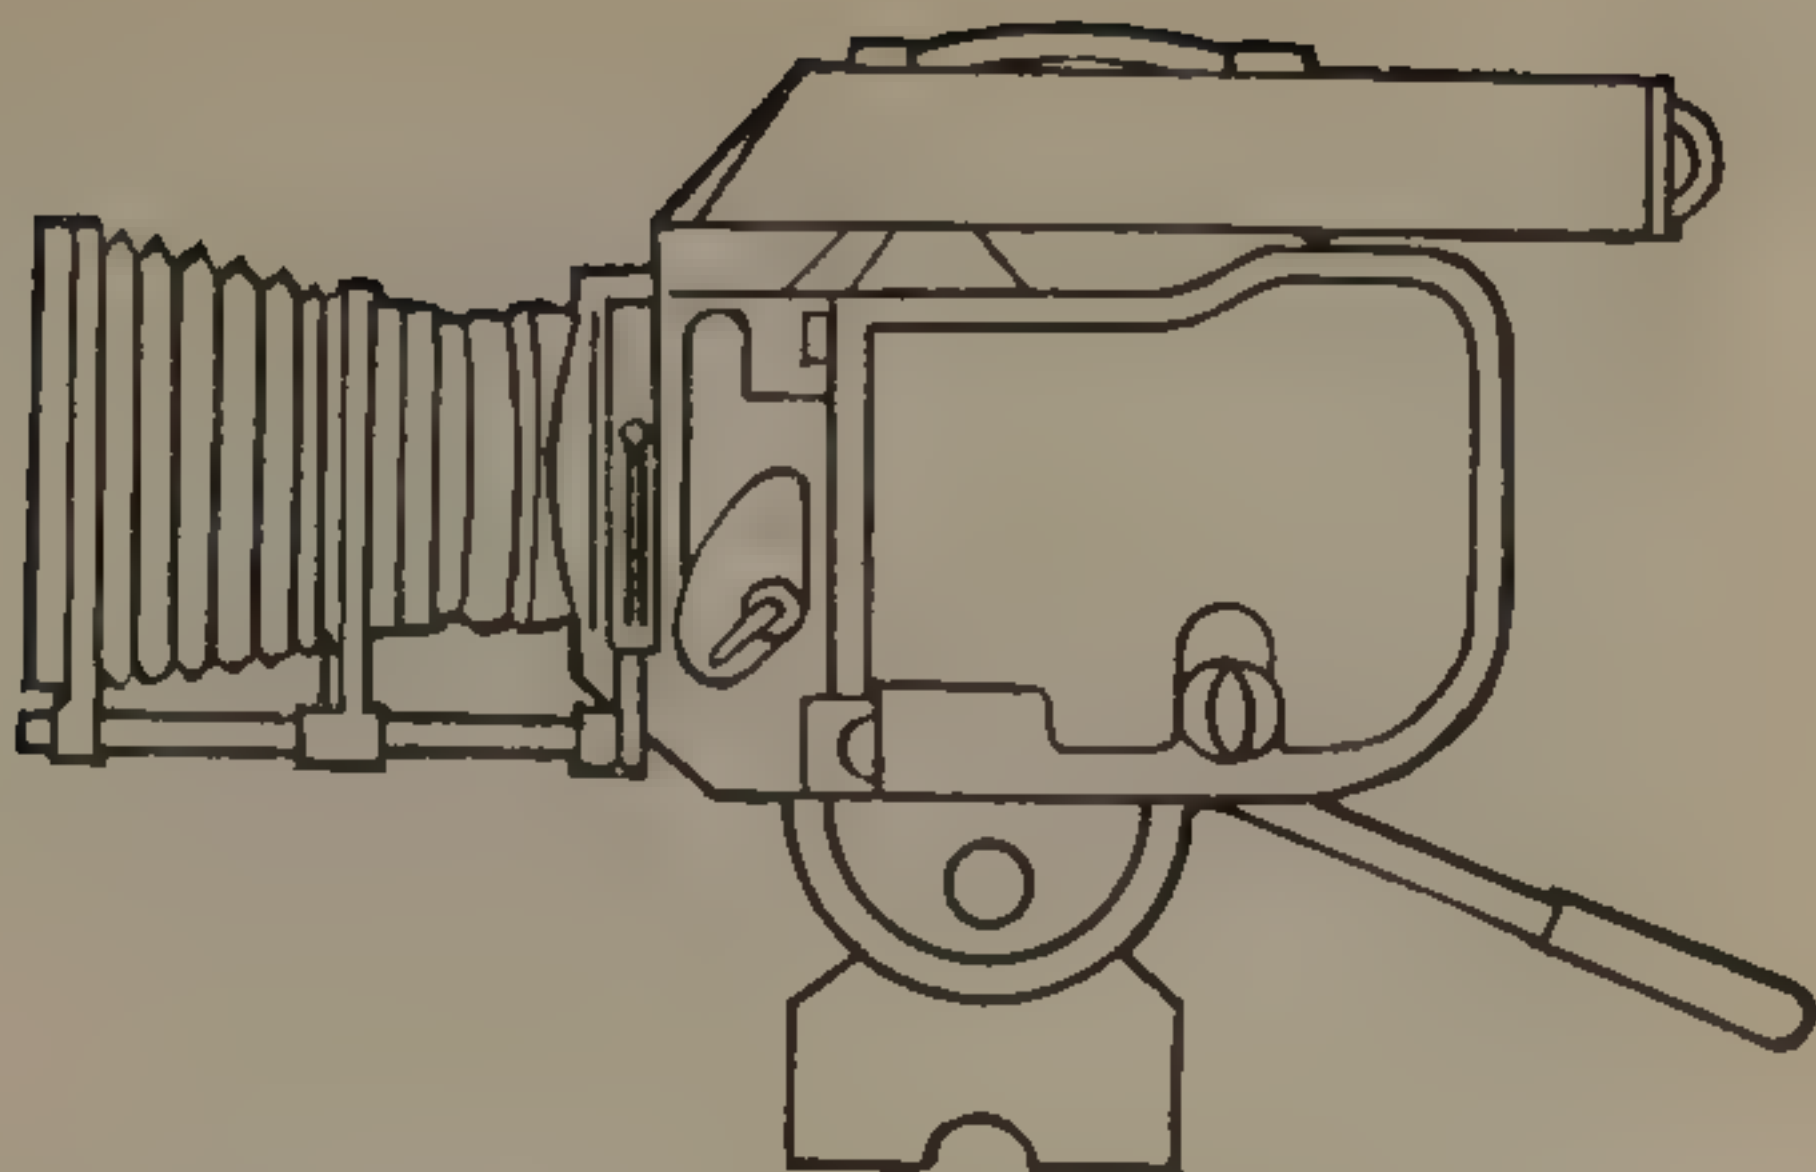

Fig. 9. Russian Rodina field camera, a relatively small and easily transportable model with reflex viewfinding.
Fig. 9. Noiseless mechanism of the 20th Century Fox camera. (1) Eccentric, (2) sliding sleeve, (3) pull-down arm, (4) pivot, (5) sliding travel, (6) pull-down pin.